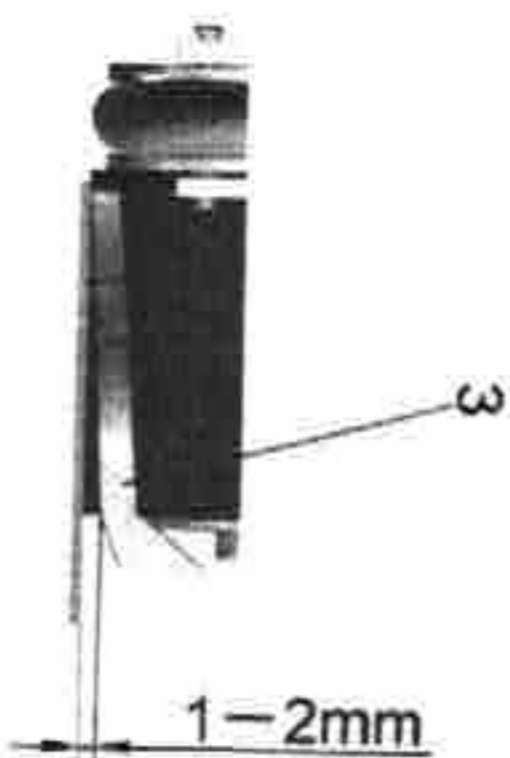

Figure 5
1. The distance between hot air nozzle and ground should be shown as figure 5 (We have adjusted the distance) .